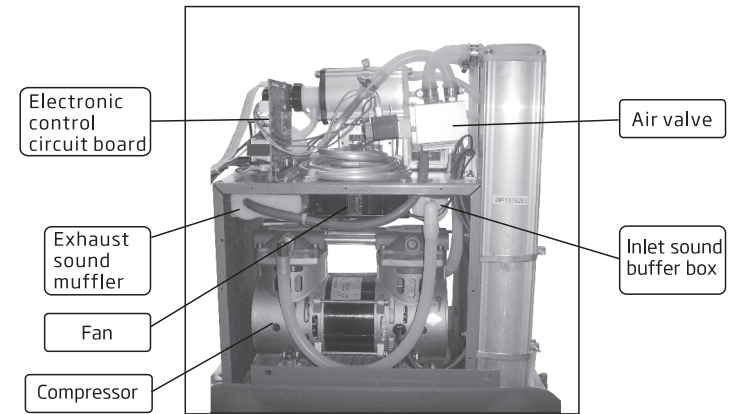

Figure 19
- › Unscrew the screws in both sides (9 screws each side) and take it out. (Figure 19, Figure 20)